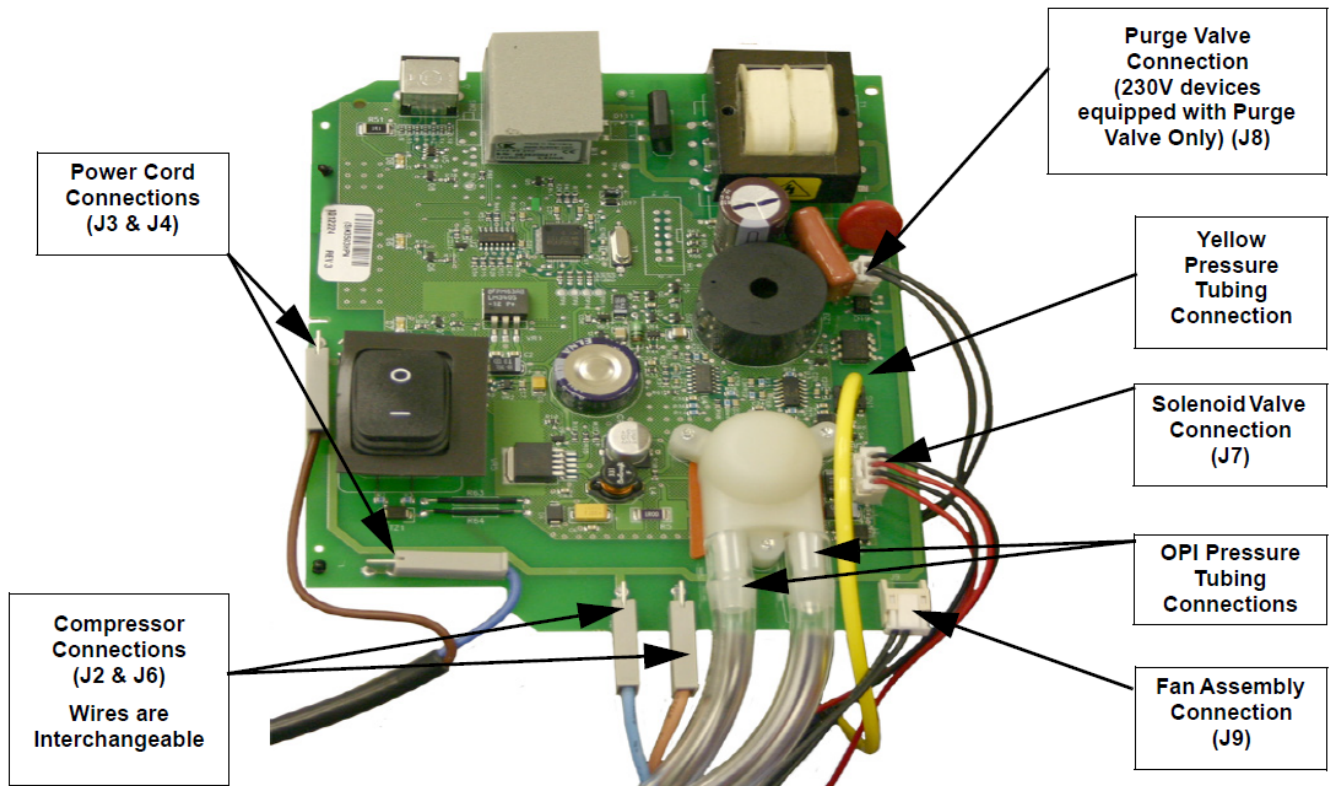

Figure 7-15: CONNECTION POINTS ON THE MAIN PCA
5. Remove the Power Cord Connectors from the J3 and J4 locations of the Main PCA. Refer to Figure 7-15.
6. Remove the Fan Connector from the J9 location of the Main PCA. Refer to Figure 7-15.
7. Remove the Valve Solenoid Connector from the J7 location of the Main PCA. Refer to Figure 7-15.
8. Remove the Purge Valve Connector from the J8 location of the Main PCA (230V devices equipped with a Purge Valve Only). Refer to Figure 7-15.
9. Gently remove the yellow pressure line coming from the Pressure Regulator Adaptor from the pressure sensor (SN1) of the Main PCA. Refer to Figure 7-15.
10. Remove the two pieces of flow tubing from the OPI sensor on the Main PCA (OPI devices only). Refer to Figure 7-15.
12. Remove the Compressor Wires from the J2 and J6 locations of the Main PCA. Refer to Figure 7-15.
3. Connect the Valve Solenoid connector to the J7 location of the Main PCA. Refer to Figure 7-15.
4. Connect the Fan Connector to the J9 location of the Main PCA. Refer to Figure 7-15.
5. Connect the Compressor Connectors to the J2 and J6 locations of the Main PCA. The Compressor wires are interchangeable. Refer to Figure 7-15.
6. Connect the Purge Valve Connector to the J8 location of the Main PCA (230V devices equipped with a Purge Valve Only). Refer to Figure 7-15.
7. Connect the Power Cord Connectors to the J3 and J4 locations of the Main PCA. The long wire should be connected at J3 and the shorter wire connected at J4. Refer to Figure 7-15.